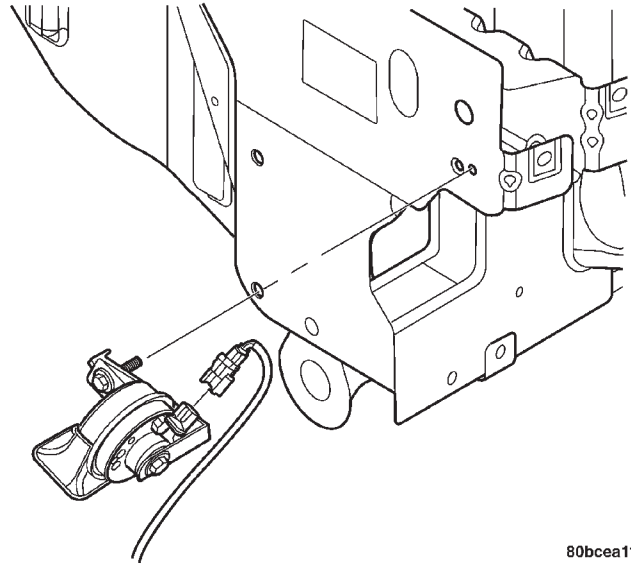

Fig. 6 Horn Remove/Install
(2) Remove the windshield washer reservoir. Refer to Group 8K Windshield Washer and Wipers, Washer Reservoir Removal and Installation.
(3) Disconnect the harness connector.
(4) Remove the one screw holding the horn assembly to vehicle (Fig. 6).